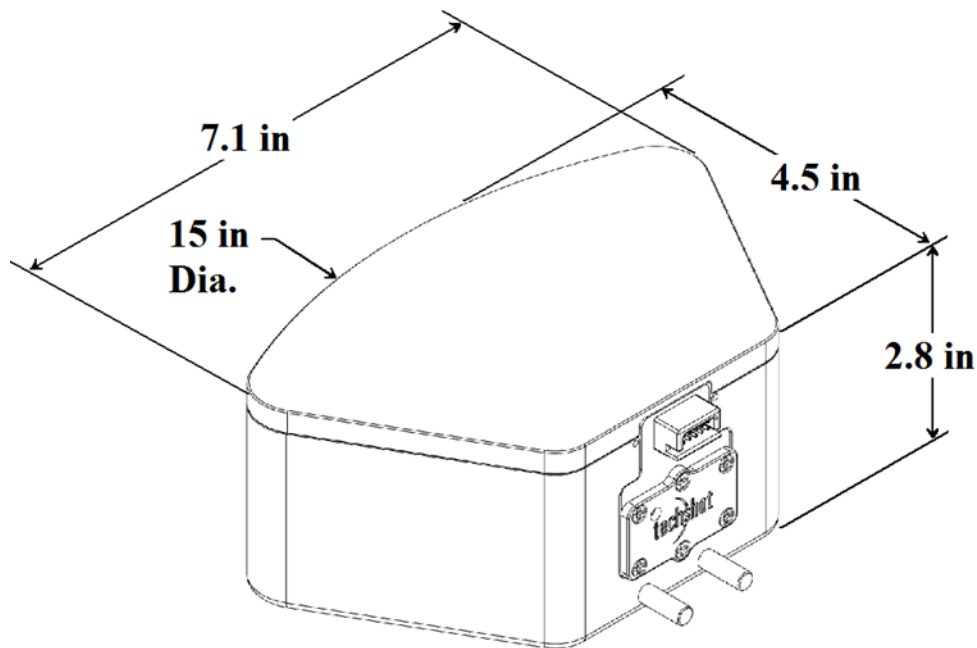

Figure 1 – Generic MVP experiment module dimensions
- 1.2.1 The experiment module shall be designed to be compatible with the Techshot Multi-purpose Variable-g Platform (MVP). The experiment module shall fit within the generic form factor illustrated in Figure 1.